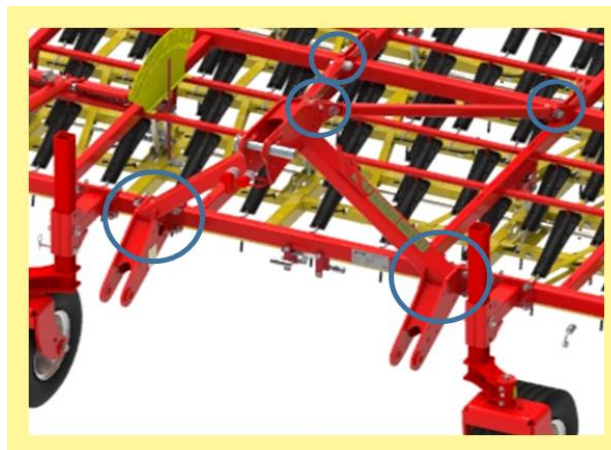

Figure 13: Dismounting the headstock
- 6) In the next step, the headstock is dismantled. To do this, the bolted connections marked in Figure 13 are unscrewed on both sides.